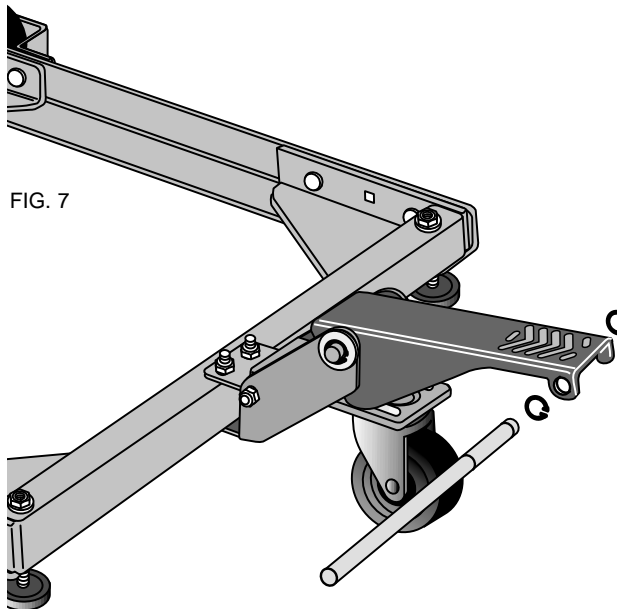

FIG. 7
**STEP 8. Attaching extension lever (Fig. 7).**